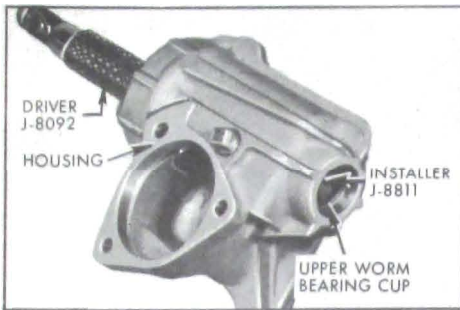

Figure 8-14—Installing Upper Worm Bearing Cup
2. Inspect worm bearings and cups for damage or excessive wear. Replace bearings if necessary. The lower worm bearing cup is not replaced separately, but is serviced with the worm bearing adjuster. If upper worm bearing cup is defective, drive cup out of housing with a punch and install new cup using Installer J-8811 with Driver Handle J-8092. See Figure 8.14.